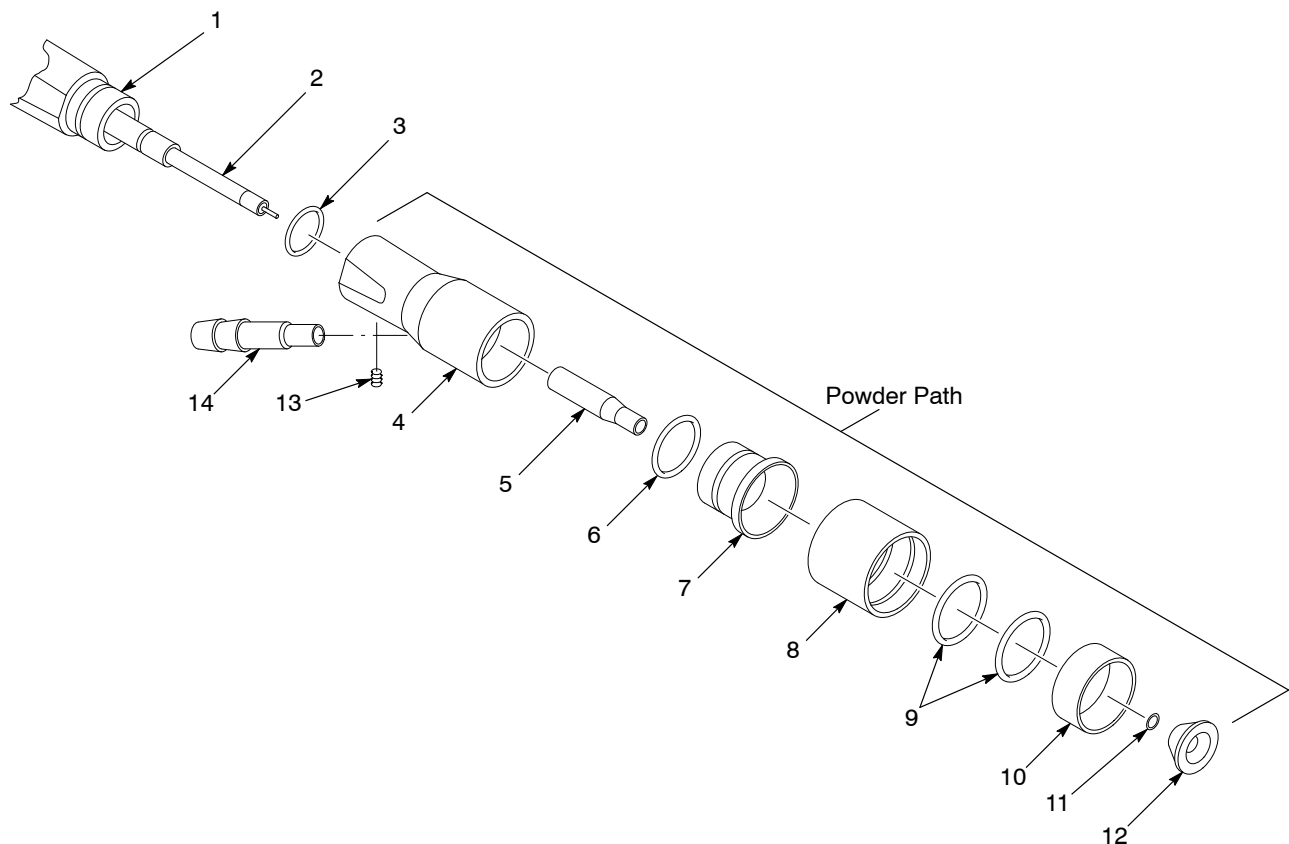

Figure 4-1 Powder Path Repair
1. See Figure 4-1. Disconnect the powder feed hose off of the feed hose adapter (14). Squeeze the powder feed hose to remove it from the hose bracket.
3. Remove the pattern adjust sleeve (8), deflector (12), and nozzle (7). If you are using a flat-spray nozzle, remove the nozzle.
4. Remove the wear sleeve (5) from the resistor probe (2).
5. Remove the feed hose adapter. Loosen the set screw (13) and pull the powder inlet body (4) from the extension (1).